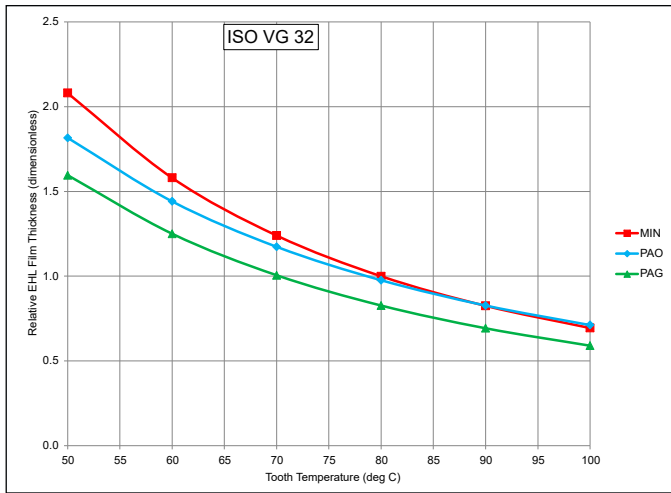

Figure 5—Relative EHL film thickness for ISO VG 32 lubricants.
9. Figure 5 compares performance of the three ISO VG 32 lubricants: